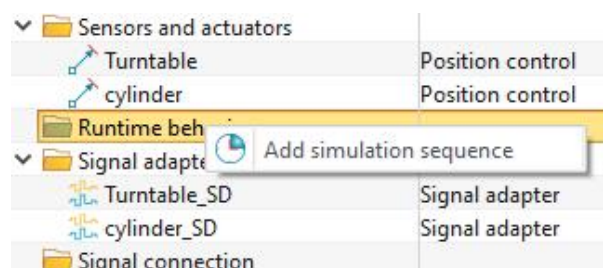
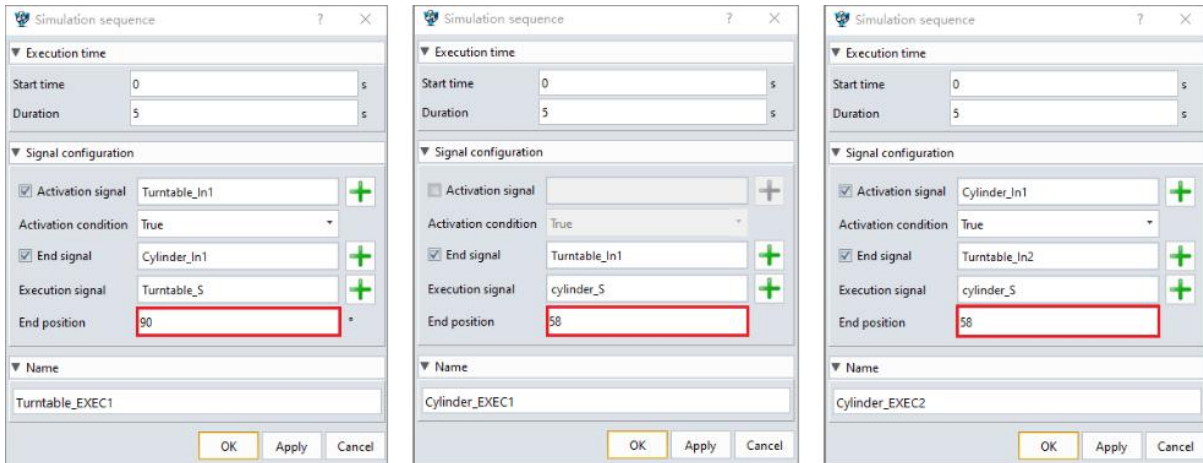

Figure 13-36: Add simulation sequence
Figure 13-37: simulation sequence message
- Create three simulation sequences:(Figure 13-36)(Figure 13-37)